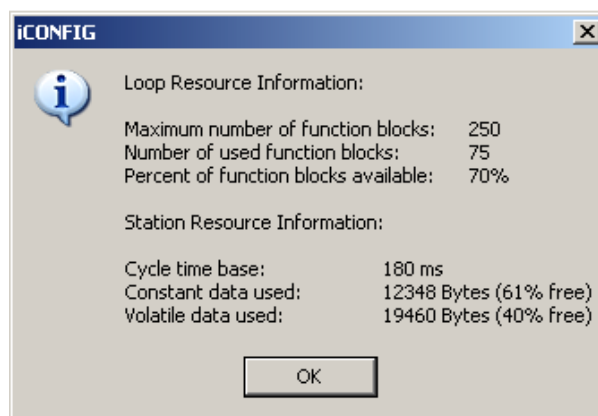

Figure 4-14 Loop Resources Information dialog
- Click the **[Available Block Information]** button on the **Loop Resources Available** toolbar.  The Loop Resources dialog displays. See Figure 4-14.